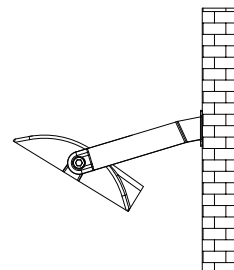

figure 3.4
Step 3: Loosen the screws, adjust the lamp angles as per actual demands and then tighten the screws. (figure 3.4)